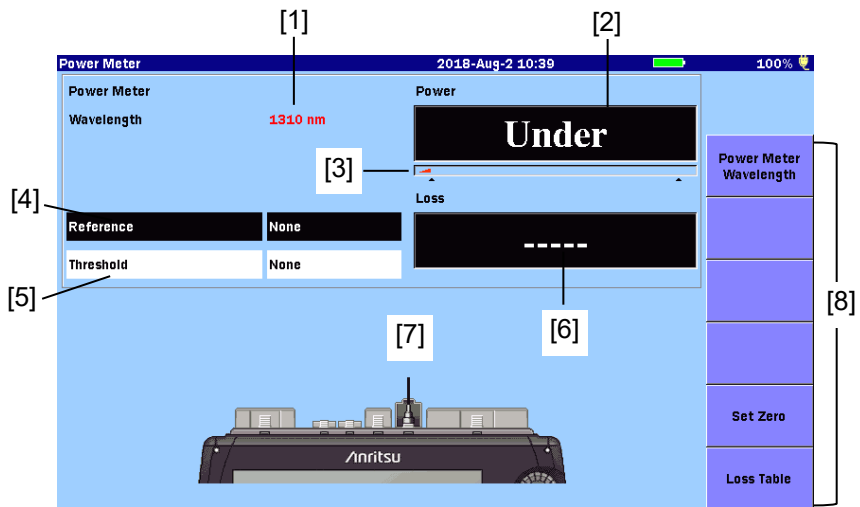

Figure 10.1.2-1 Power Meter Screen
2. Touch Set Zero on the Power Meter screen (Figure 10.1.2-1 “Power Meter Screen”). The following dialog box appears.
Displays the wavelength, reference value, and power level or loss set on the Power Meter Screen (Figure 10.1.2-1).
Touching this softkey goes back to the Power Meter screen (Figure 10.1.2-1 “Power Meter Screen”).